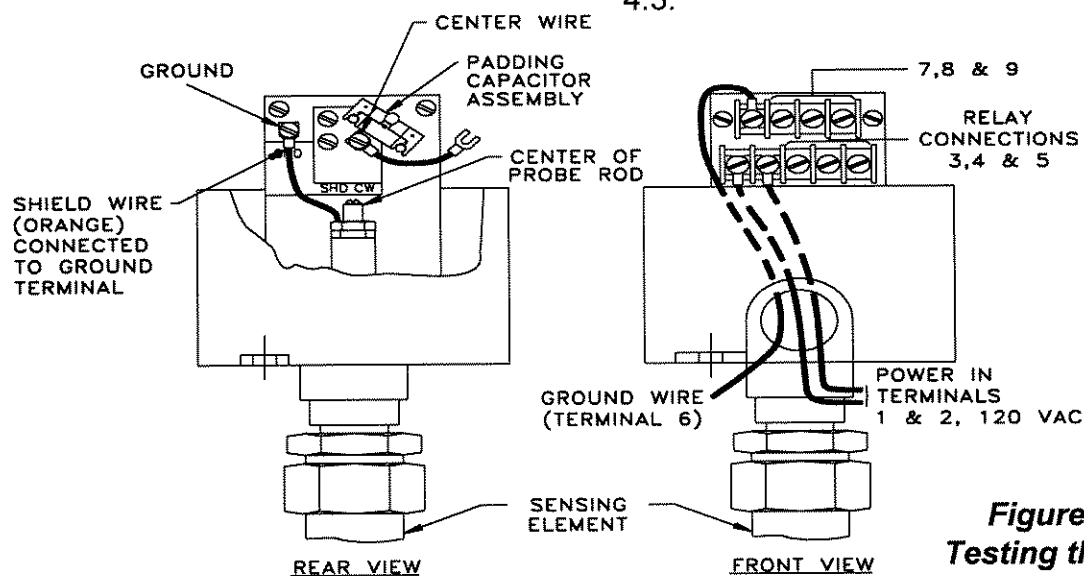

Figure 4-1
B. If output indicates "water" (high level - LED bright), remove the wire, shown in Figure 4-1, from the center of the probe rod. Instrument should reverse output.
Remove the wire from the center of the probe rod (Figure 4-1) and connect a variable resistor between the loose end of the wire and ground. Reduce the resistance to 200Ω . The instrument should give a "water" indication (high level - LED bright).